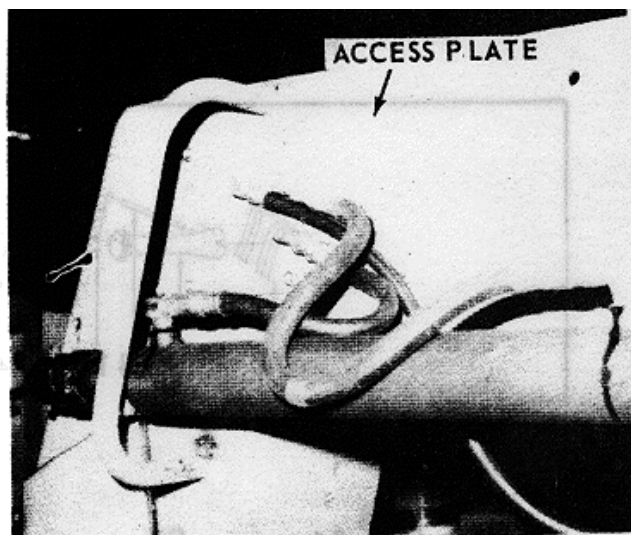

FIGURE 9-5.
c. Remove gooseneck access plate (see figure 9-5).